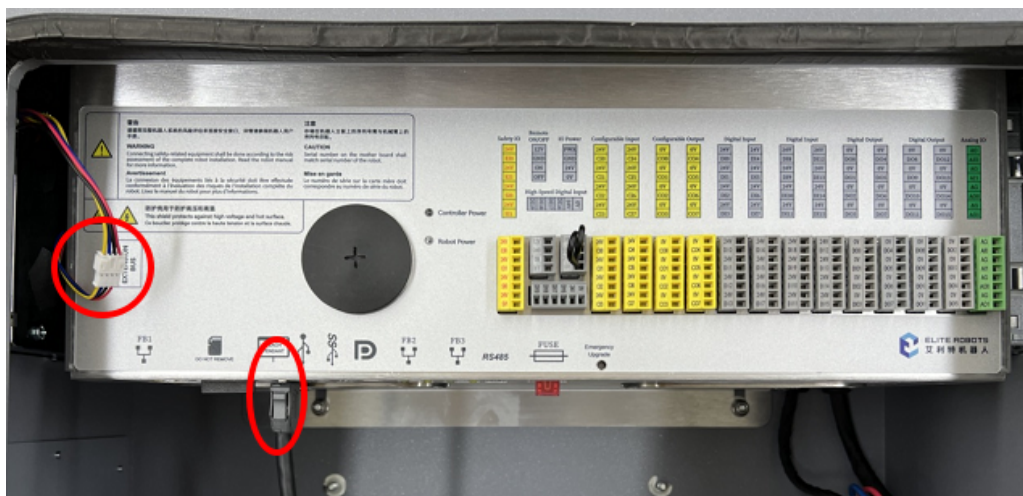

Figure 3-37 : Install sheet metal, nuts, and reconnect cables
5. Load the mounting sheet metal module back into the box, install 4 anti-loosen nuts, connect the fan cable, and connect the teach pendant cable, as shown in **Figure 3-37 :**